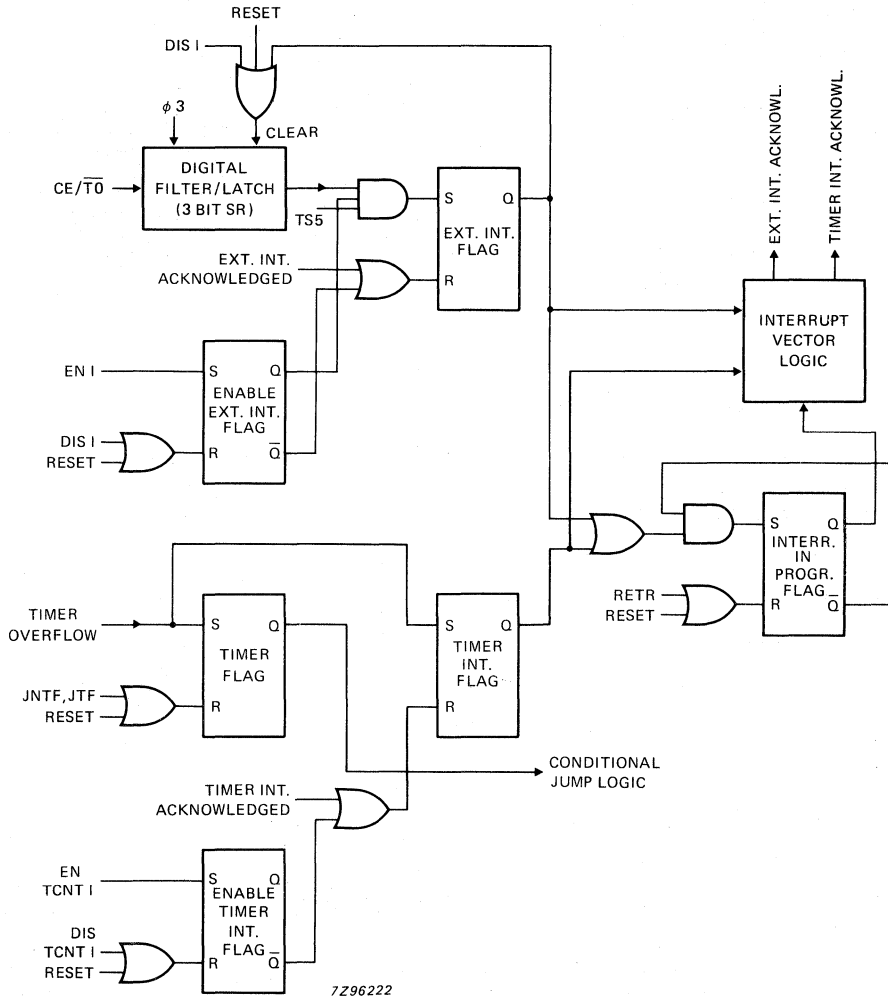

Fig. 13 Interrupt logic.
**Interrupts** (see Fig. 13)
Notes to figure 13